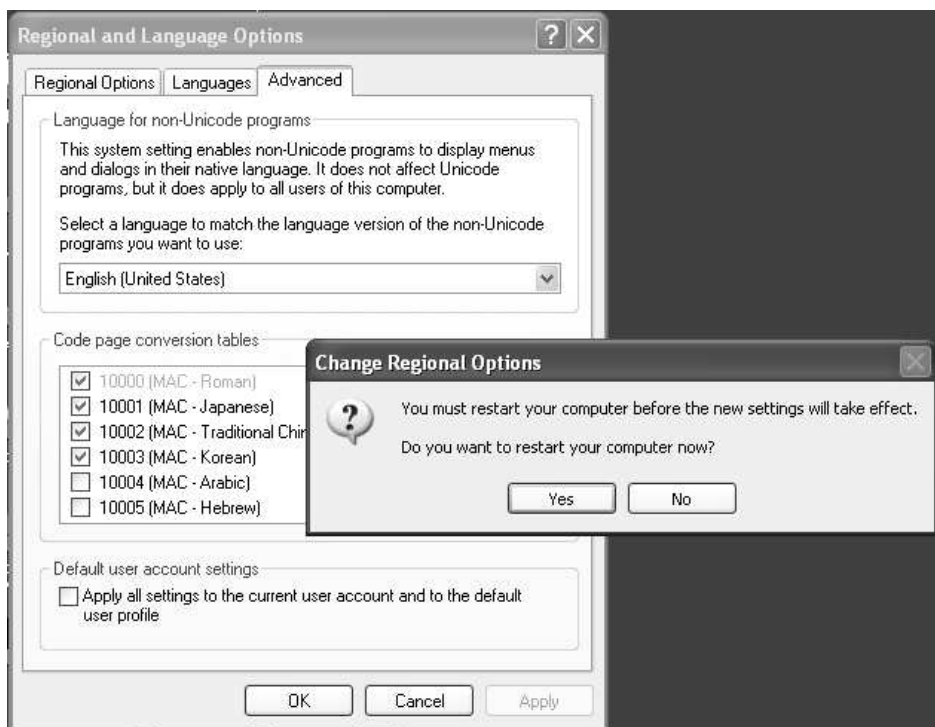

Figure 30. Restart PC Dialog
5. Click on **Apply**. You will be instructed to restart your computer. (See Figure 30.) Restart your computer, and repeat Step 1 and Step 2 above; then continue with Step 6.